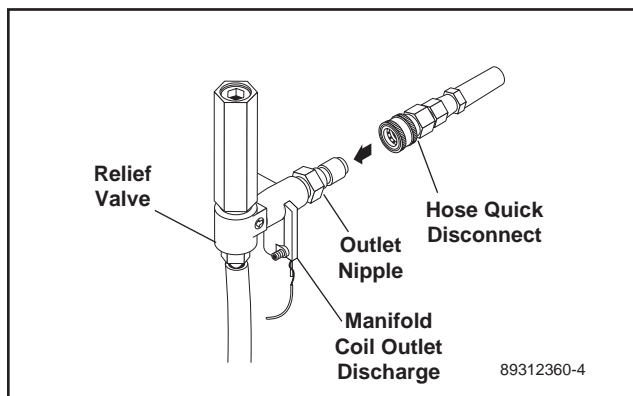

Figure 3 - Pressure Hose Installation
1. Install the pressure hose on the pressure washer as shown in **Figure 3**.